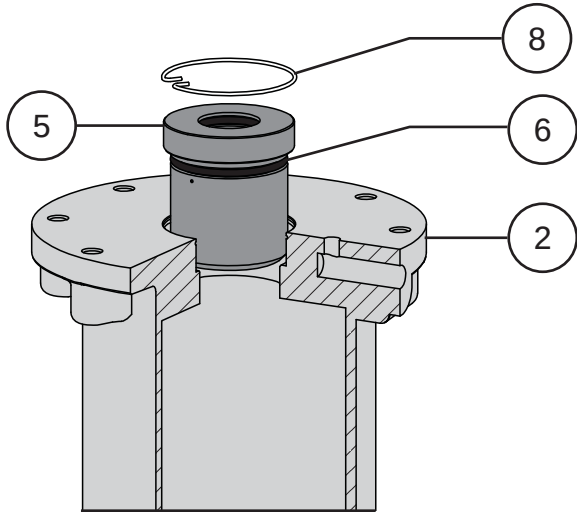

Figure 19 Actuator Bushing Removal
- 3 Carefully remove the snap ring (Key 8) and remove the bushing (Key 5) from the yoke (Key 2). Refer to Figure 19.